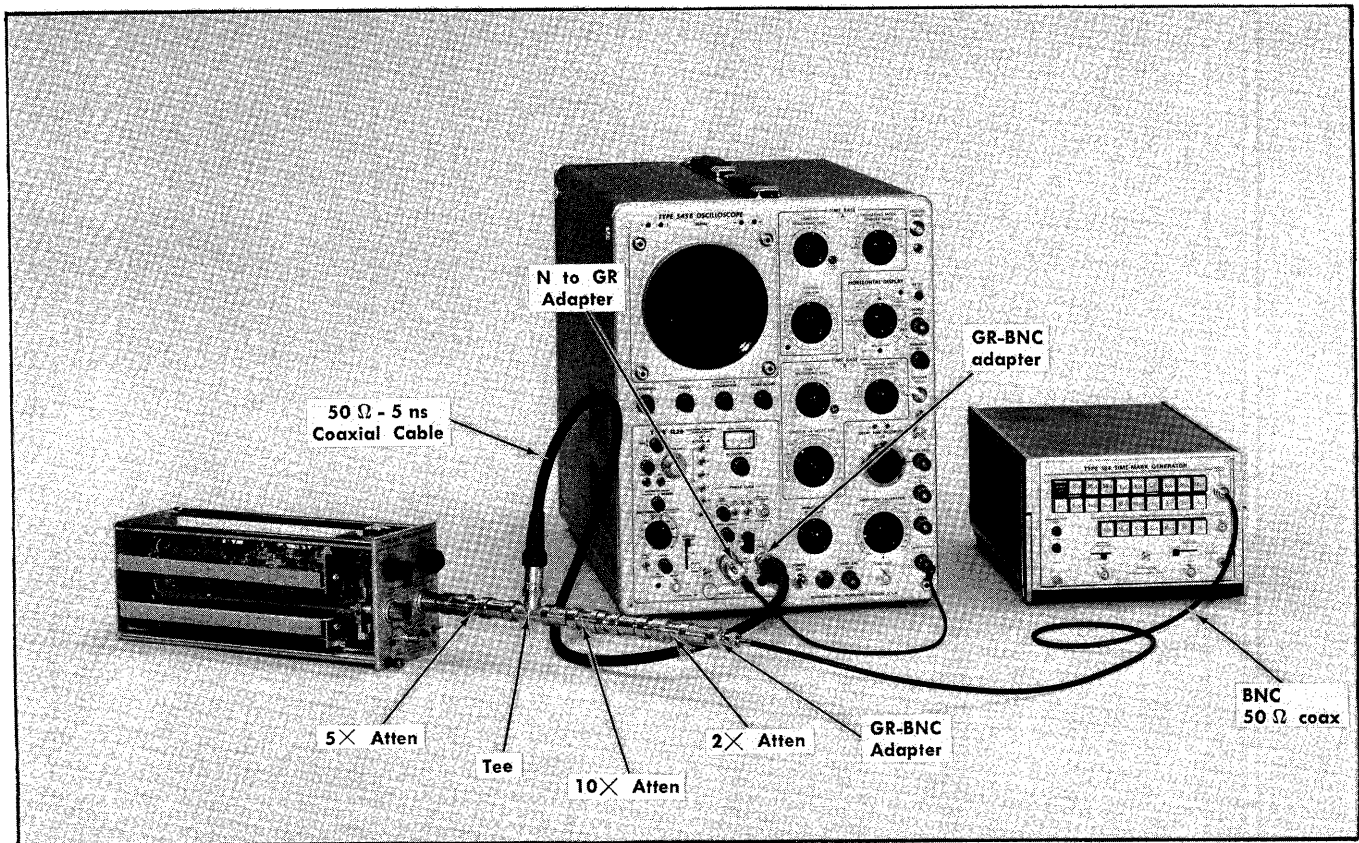

Fig. 6-16. Setup for steps 9 and 10.
b. Use the equipment setup as shown in Fig. 6-16. Connect the Sawtooth A signal output via a BNC to banana patch cord to the 1L20 Sweep Input connector.